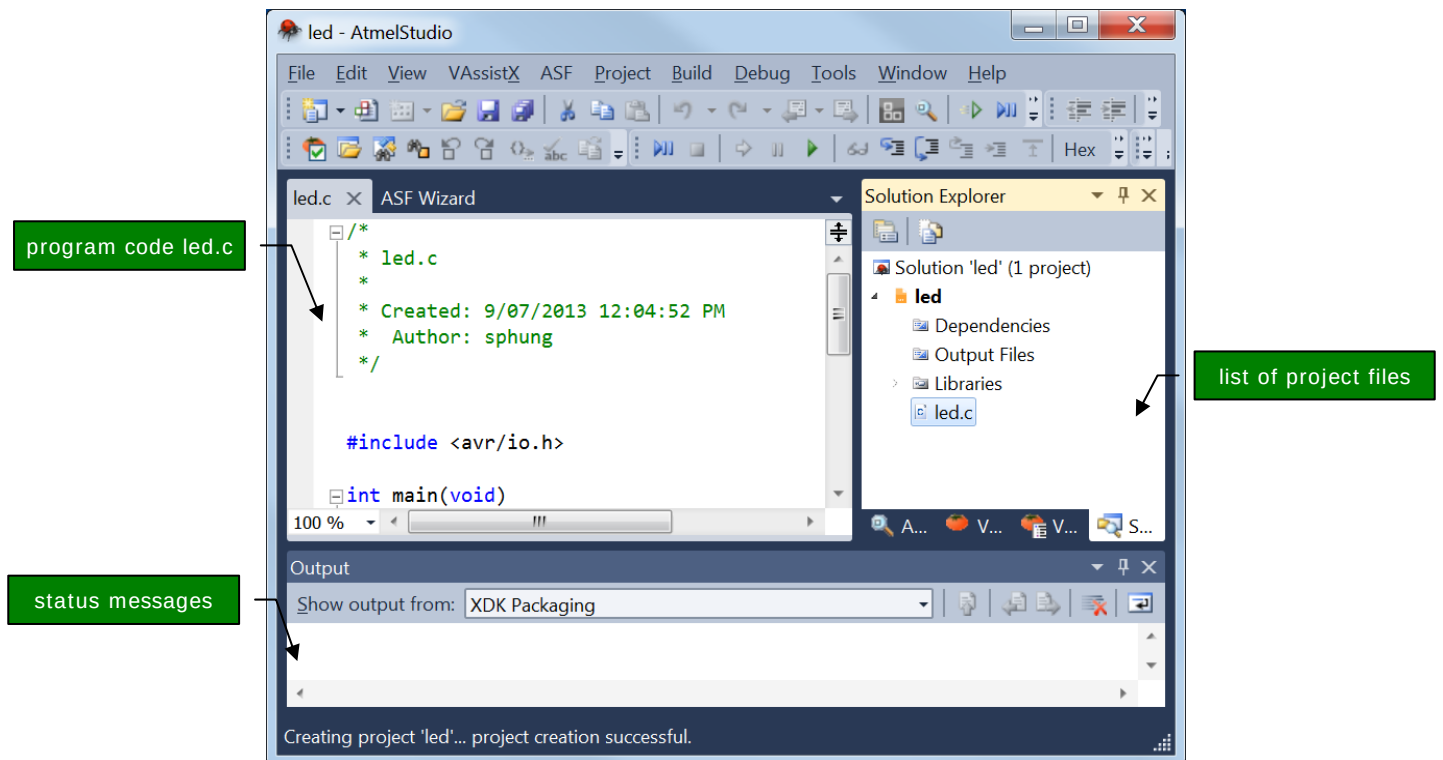

Figure 3: The Atmel Studio with a project opened.
- A project file will be created and Atmel Studio displays an initial file led.c (see Figure 3).